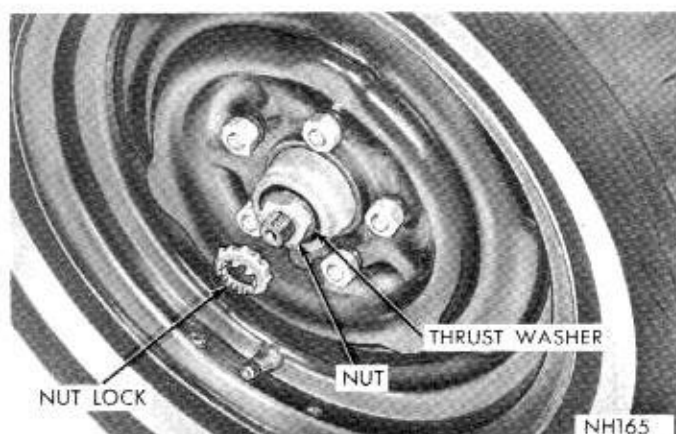

Fig. 48—Front Wheel Bearing Adjustment
- (1) Install wheel and drum assemblies and tighten wheel nuts on Charger and Coronet models, to 65 foot-pounds.
- (2) Tighten wheel bearing adjusting nut (Fig. 48) to 90 inch-pounds on Coronet and Charger models, while rotating wheel,
- (3) Position nut lock on adjusting nut so one pair of cotter pin slots align with hole in spindle.